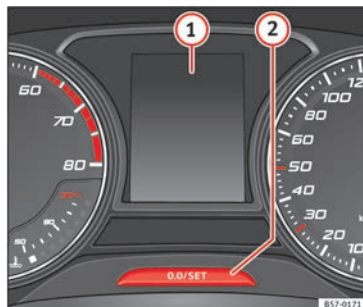

Fig. 48 Instrument panel
The service interval indication appears on the instrument panel display »» Fig. 48 ①.